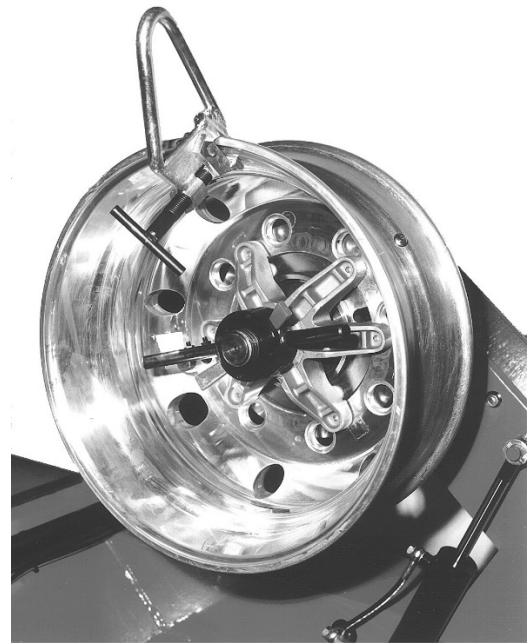

Fig.28
A. Liberally lubricate the entire inner surface of the rim and the tire beads. Attach the mounting clamp (Fig.28) to the outer rim flange with the valve at 11 o'clock and the clamp at 12 o'clock.